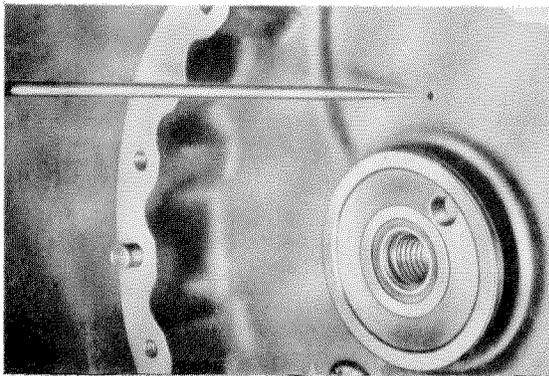

Figure 01-26/4
- Clean all oil passages thoroughly. For this purpose remove the two screw plugs in the front and rear of the main oilway (see Figure 01-26/6). The oil passages and the hole in the front end for the lubrication of the timing gears of OM 636 (Figure 01-26/4) must be thoroughly cleaned with brushes and wires and then blown out with compressed air.